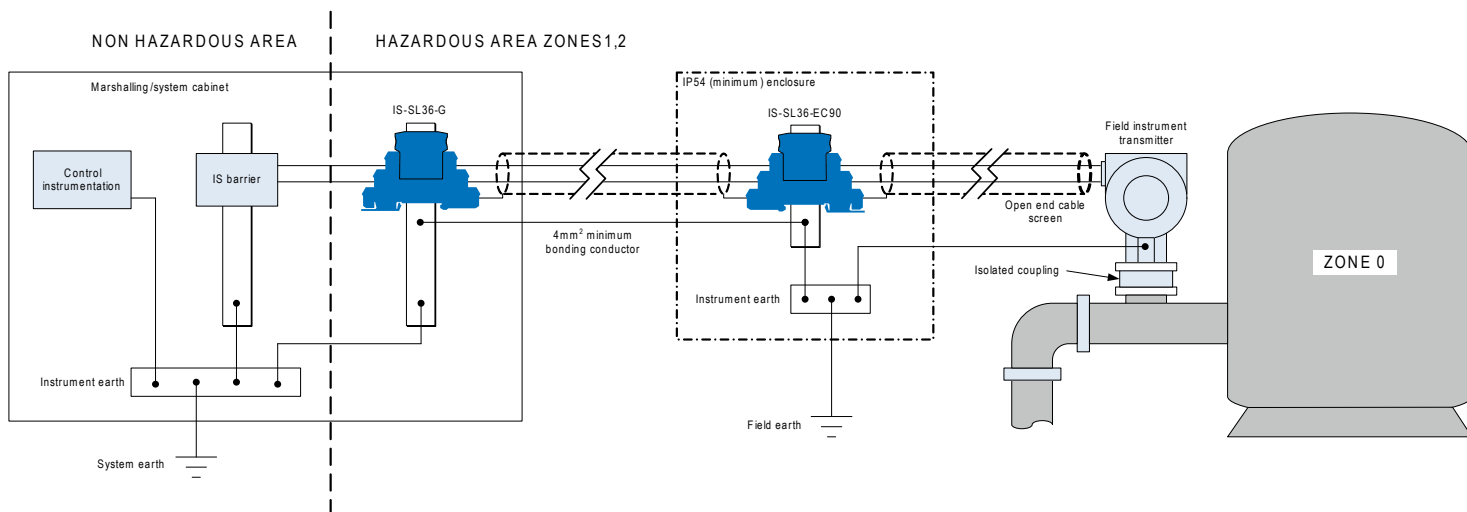

Figure 8: Typical hazardous area installation where field instrument body is isolated from pipework.
- 5.3** Figure 8 shows a typical hazardous area installation where the body of the field instrument is isolated from the pipework. In this case the Novaris slimline signal line protector and the field instrument body must be earthed at a common point, typically an earth bar.